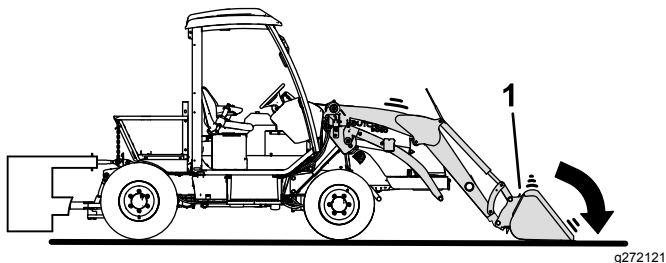

Figure 44
- Relieve pressure on each loader-arm latch by rotating the loader attachment slightly forward and lowering it to the ground (Figure 44).